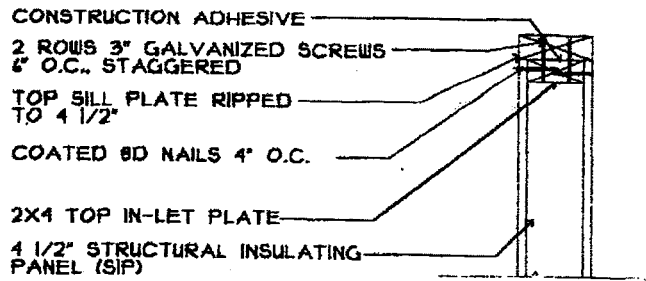

FIGURE 3\*—TOP IN-LET PLATE
- A top in-let plate, as shown in Figure 3 of this report, shall be provided along the top edge of all Murus wall panels. The top in-let plate shall be installed in such a manner as to be continuous through the vertical panel joints. The top in-let plate shall consist of 2-inch by 4-inch dimension lumber. The plate shall be located in a 1 1/2-inch-deep routed channel at the top of the panel with spray foam applied between the foam core and the in-let plate. The OSB faces of the Murus Panel shall be secured to the top plate with 8d nails at 4 inches on center. The fasteners on the OSB faces shall be staggered from each other.
1. The connection at the head and sill of the panel shall conform to Figures 3 and 4 of this report.